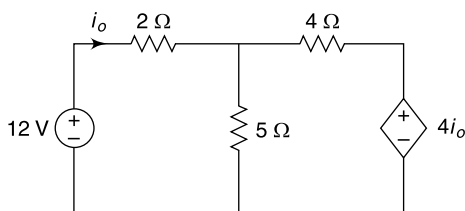

Fig. 4.199
38. Using Norton's theorem find the current in the 5 Ω resistor in the network shown in Fig. 4.199.